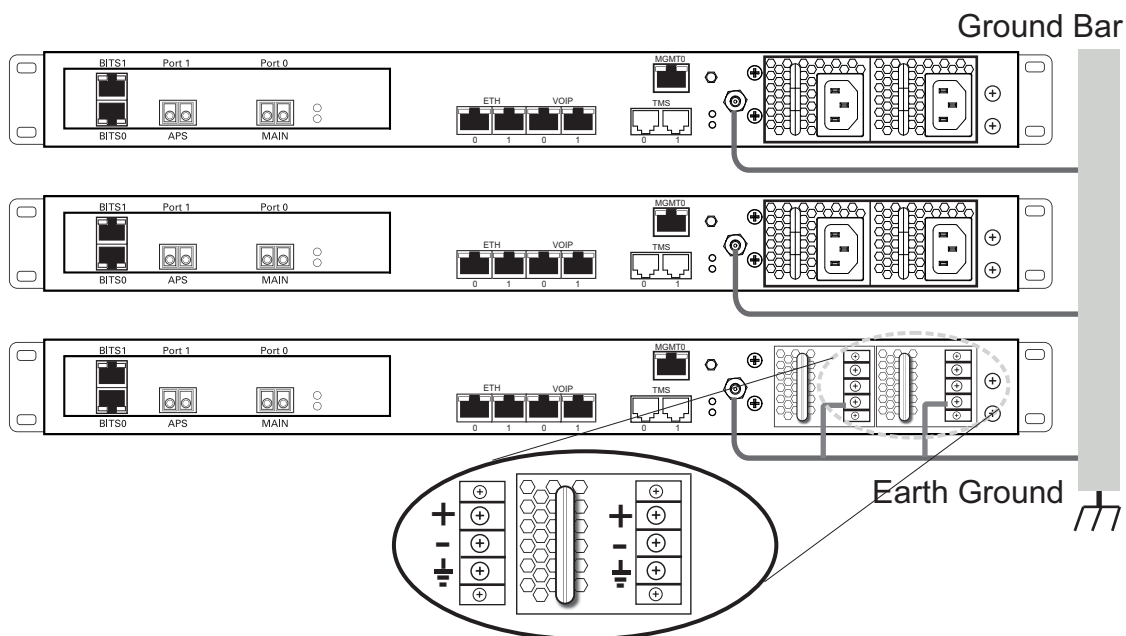

Figure 2.16 Chassis Ground Connection
1. Connect one end of a ground wire to the ground lug of the 3200 series gateway. See figure 2.16 on page 36.